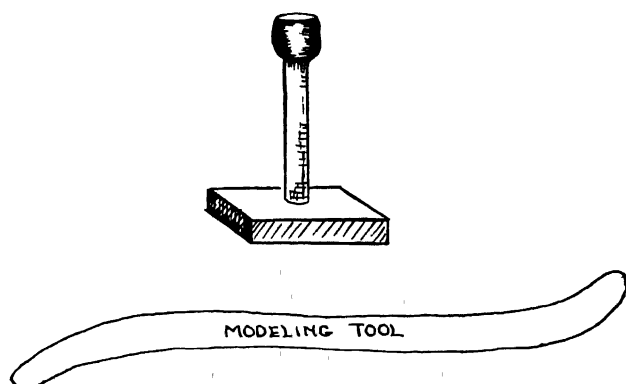

Fig. 15—Wooden Armature and Modelling Tool
*Head*—A wooden armature should be made to support the clay head (Fig. 15.) A long-necked bottle with the bottom weighted can be used for an armature.
Use your modelling tool to shape and finish the features. (Figs. 15, 18 and 19.)